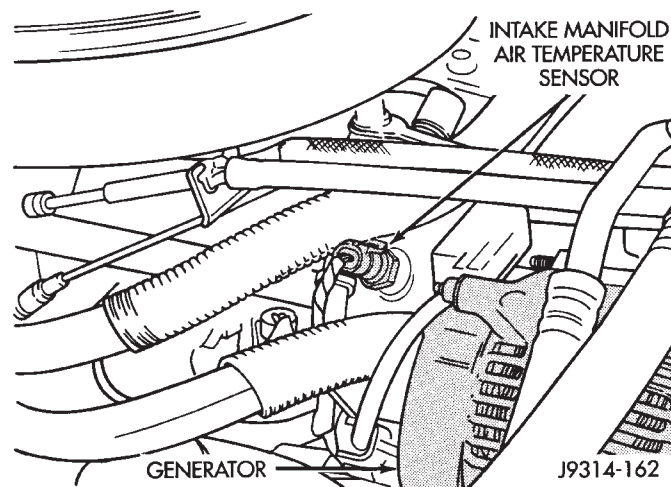

Fig. 55 Air Temperature Sensor—5.2L Engine
(1) Disconnect the wire harness connector from the intake manifold air temperature sensor (Fig. 55).